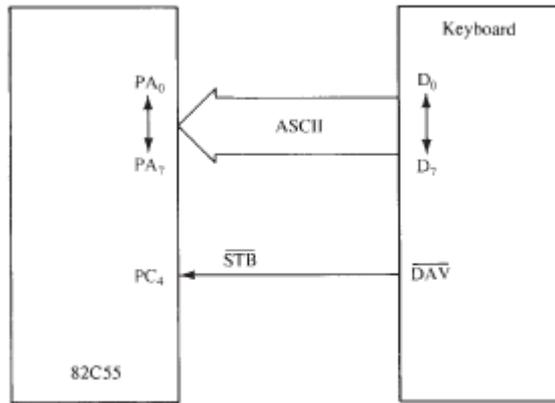

Figure 11-28:Using the 82C55 for strobed input operation of a keyboard
- The keyboard encoder debounces the key-switches and provides a strobe-signal whenever a key is depressed and the data-output contain the ASCII coded key-code(Figure 11-28).